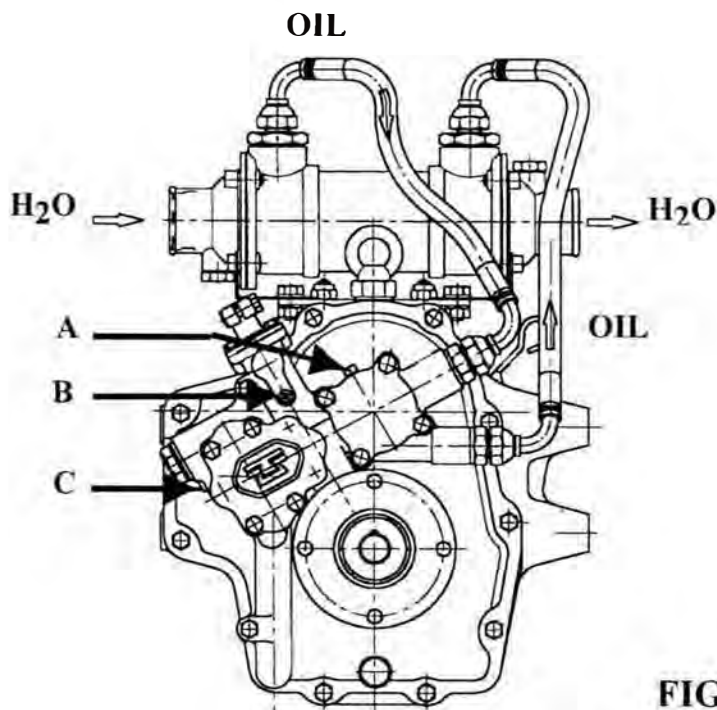

FIG.1
- The heat exchanger connection is achieved as shown in fig.1.
- Oil pressure measured at 1000 RPM engine speed, oil temperature 60°C, is to be between 19 and 21 bar. Pressure gauge connections M6x1 are placed, refer to fig.1, on A (forward) and C (reverse).